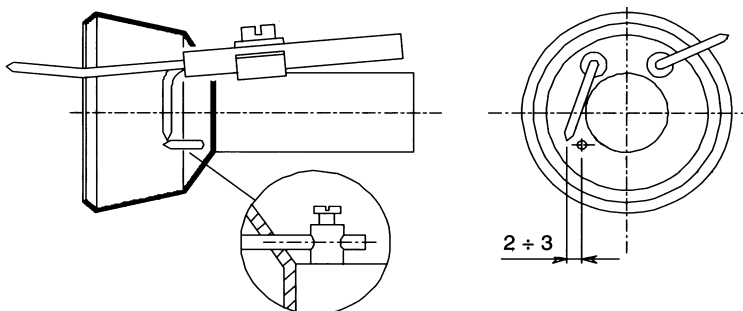
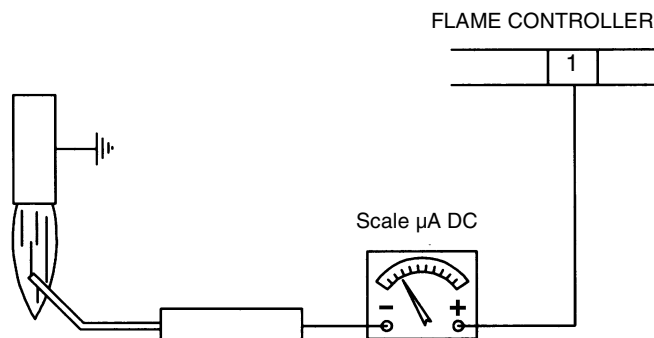

Fig. 19
Fig. 20
- Check of ignition electrode, cleaning, adjustment and, if necessary, replacement (Fig. 19);
- Check of detection electrode, cleaning, adjustment and, if necessary, replacement (Fig. 19). If in doubt check the detection circuit as shown in Fig. 20.
To guarantee a proper ignition, the measures indicated in Fig. 19 must be respected.
To measure the detection signal intensity, follow the scheme in Fig. 20.